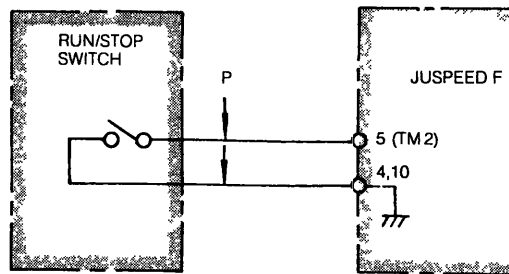

Fig 4 Connections of RUN/STOP Switch
- (1) Be sure to connect MCCBs rated 30AF, 10A between power supply and JUSPEED-F input terminals (L1) (R), (L2) (S), (L3) (T)
- (2) It is recommended to provide a magnetic contactor (MC) with a self-holding circuit at the power supply side, for safe operation
- (3) For JUSPEED-F with a front cover, remove the cover and connect lead wire to the terminal block
- (4) For JUSPEED-F with an operator's panel, a frequency meter, frequency setting switch and run/stop switch are provided
- (5) The order of power supply phases to be connected to input terminals (L1) (R), (L2) (S) and (L3) (T) is not important
- (6) Never connect the power supply to (T1) (U), (T2) (V) or (T3) (W) Otherwise JUSPEED-F will be damaged
- (7) Connect a single-phase power supply to terminals (L1) (R) and (L2) (S) when it is used
- (8) Use the twisted lead for connections to control circuit terminals (4) to (17) The line must be separated from main circuit and high voltage circuit (200V, relay sequence circuit) See Fig 4 Lead length should be 66 feet (20 meters) or less